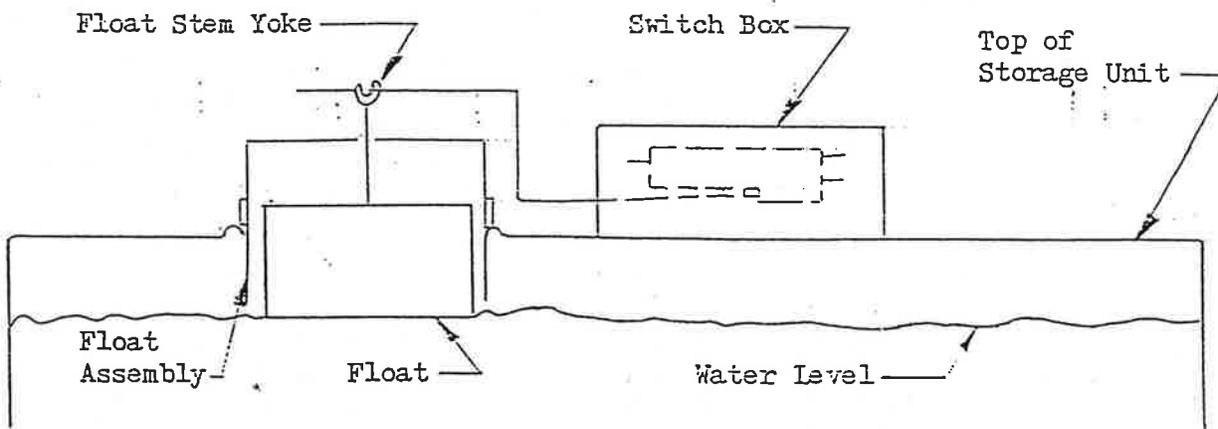

Figure 2. Float & Switch Box Assembly - Model CT-4.0 Storage Unit
- VI. The Model CT-4.0 countertop storage unit incorporates a float controlled, switched operated water level indicator to automatically control the operation of the distiller. The distiller power cord is plugged into the float switch box on the storage tank. The float assembly is installed in the access hole on the tank with the switch lever arm inserted on the float stem yoke. The switch must turn on and off near the middle of travel of the float. An audible click is heard when the switch turns on and off. (See Figure 2) Care must be exercised when removing or installing the float assembly, or when cleaning the storage unit, to prevent bending the switch lever extension (stainless wire)